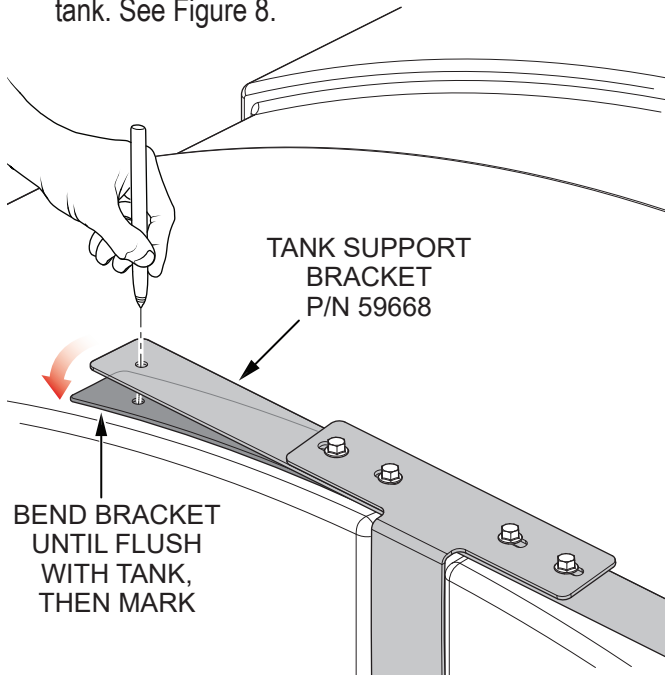

**Figure 7. Install Tank Support Bracket (Rear Of Tank)**
6. Place a **tank support bracket (P/N 59668)** onto the rear end of the water tank as shown in Figure 7.
- The tank rear holddown bracket should be on top of the tank support bracket as shown in Figure 7.
7. Use the **four 1/4-20 × 1-1/4 hex flange screws** and **four 1/4-20 blind nuts** from step 5 to secure the two brackets to the water tank (Figure 7).